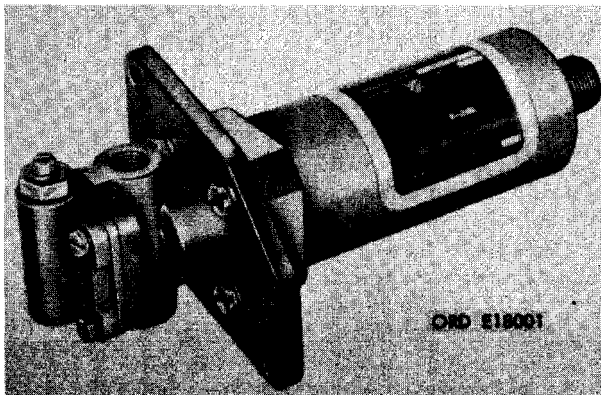

FIGURE 79. FLAME HEATER FUEL PUMP ASSEMBLY.
- (2) Figure 79 illustrates the flame heater fuel pump after removal from the engine.